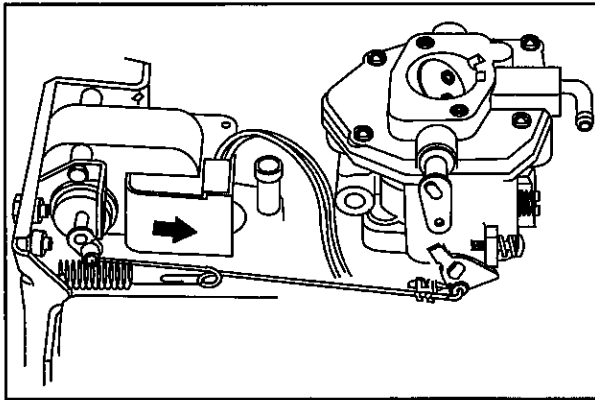

Fig. 53
2. Manually move throttle link to wide open throttle (WOT), **Fig. 53**. Engine should not exceed 4000 RPM (approximately).